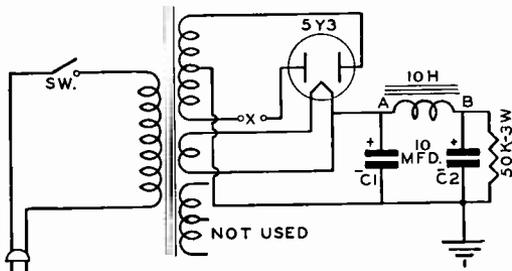

Fig. 9
Most power supply circuits take the general form of the circuit shown in Fig. 9. With this circuit, we can make modifications for condenser input, choke input, half-wave and full-wave rectification and can demonstrate the operation of an RC filter. The various wave-shapes which may be encountered under different types of operation are illustrated in Fig. 10. In all cases, the ground connection for the oscilloscope is made to B— or to ground as shown in Fig. 9. The vertical input lead is connected at either point A or B, as indicated under the illustration in Fig. 10. Either half-wave or full-wave rectification is used, as indicated in Fig.
In addition to the experiments suggested in Fig. 10, using the circuit of Fig. 9, you should also try other modifications of the filter circuit. As an example, observe the effect on the wave-shape and amplitude of the ripple when a 5000 ohm, 2 watt resistor is substituted for the 10 henry filter choke. Also try modifying the sizes of the filter condensers and the load on the power supply circuit.
Fig. 10. (A) Half-wave rectification—choke input (C_1 disconnected). Observed at point A in Fig. 9. (B) Same as (A), except full-wave rectification. (C) Same as (B), except full-wave unbalanced rectification (15 K, 2-watt resistor in series with one rectifier plate lead). (D) Half-wave rectification—choke input (C_1 disconnected). Observed at point B, Fig. 9. Full-wave is similar except for number of cycles and greater degree of rounding. (E) Full-wave rectification—condenser input filter. Observed at point A, Fig. 9. (F) Full-wave rectification—condenser input. Observed at point B, Fig. 9.